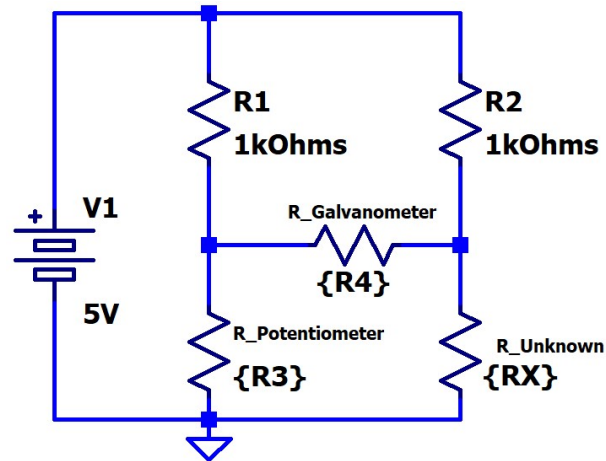

Fig 1. Circuit Diagram
2. The minimal current can be measured by the current meter and internal resistance of the current meter can play an important role for measurement accuracy. Using the following values for the components given in Figure 1, perform PSPICE simulation to obtain the resistance of R3 given current and resistance of R4 and complete **Table 1**.
3. Assuming the sensitivity of current meter is 10uA, using the circuit shown in Figure 1, design your own circuit to measure on resistor with resistance around 1kOhms as accurate as possible. In your design, provide a list of selected values for every single component and explain why you want to choose those values. Please take the internal resistance of current meter and the power rating of resistors into account in your design.